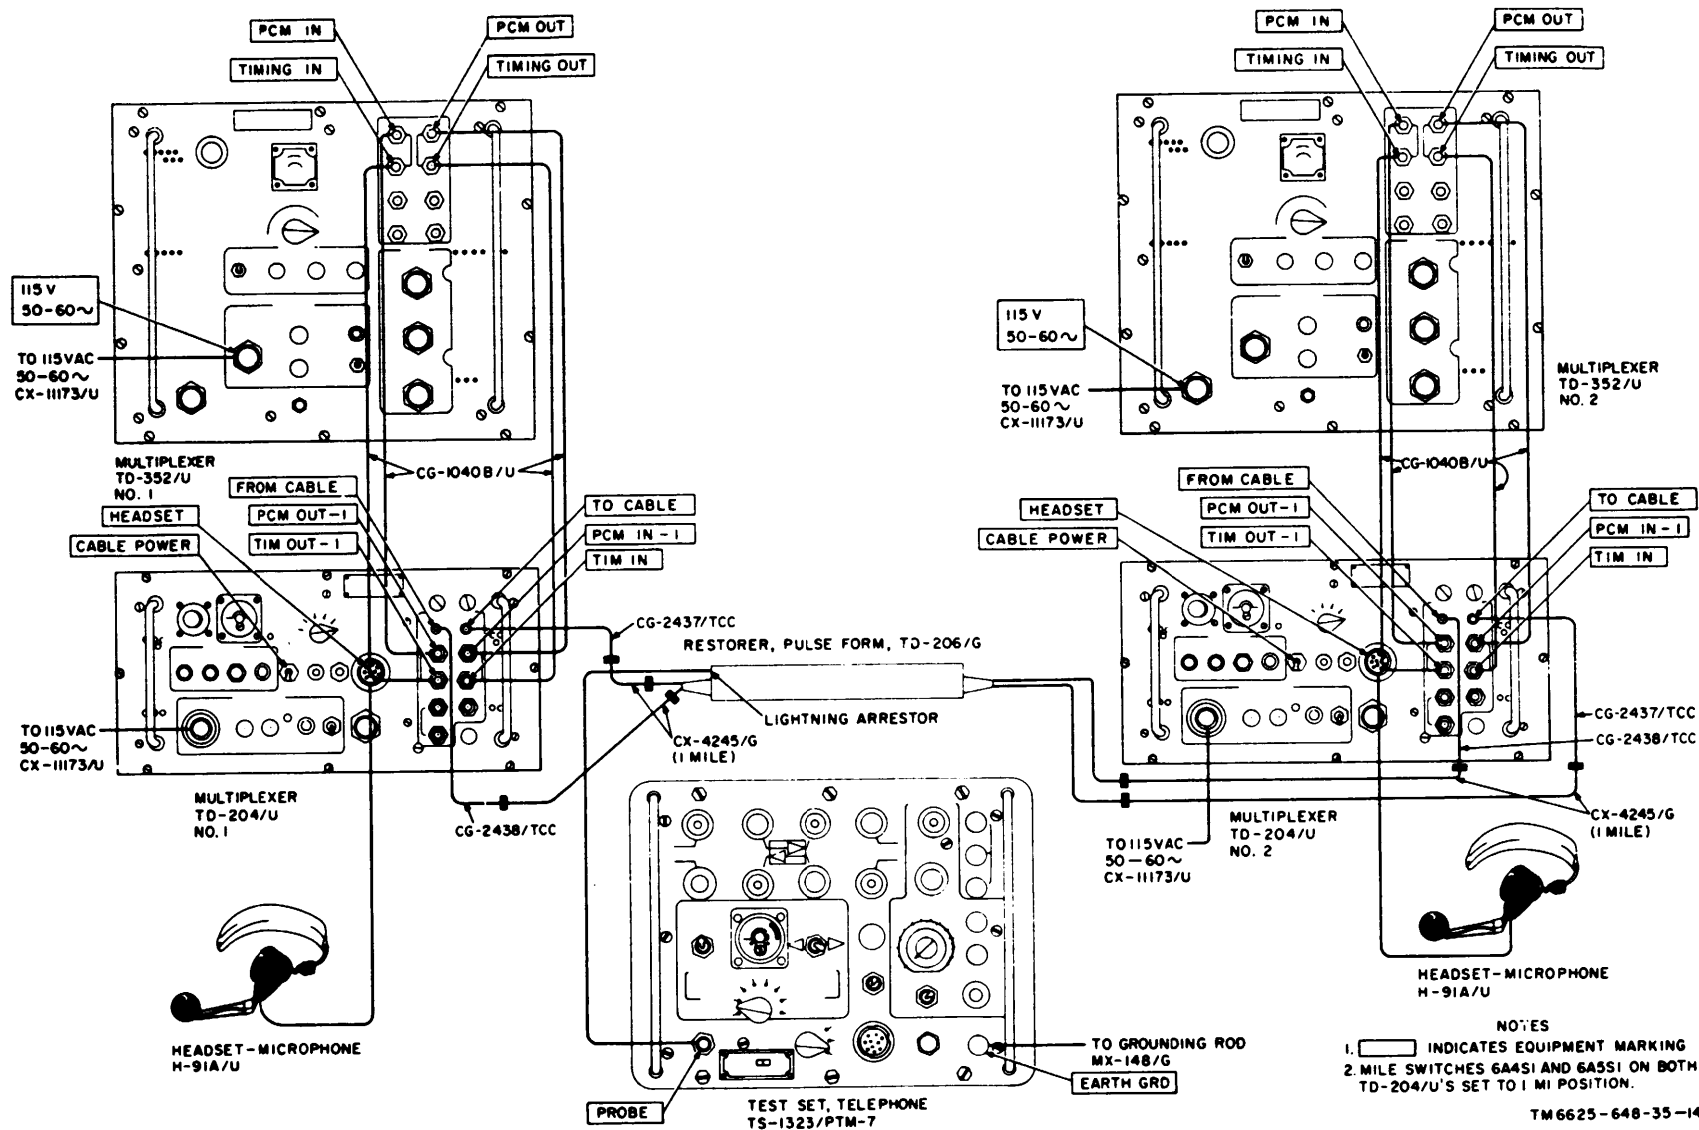

Figure 4-2. Test Set, Telephone AN/PTM-7, performance test setup, pcm probe test.
(fig. 4-2)
- (1) Multiplexer TD-352/U (2 ea).
- (2) Multiplexer TD-204/U (2 ea).
- (3) Headset-Microphone H-91A/U (2 ea).
- (4) Cable Assembly, Special Purpose Electrical CX-4245/G or equivalent (1/4-mile reel (8 ea).
- (5) Cable Assembly, Radio Frequency CG-1040B/U (5 ft) (8 ea).
- (6) Cable Assembly, Radio Frequency CG-2437/TCC (10 ft) (2 ea).
- (7) Cable Assembly, Radio Frequency CG-2438/TCC (10 ft) (2 ea).
- (8) Restorer, Pulse Form, TD-206/G (1 ea).
b. Test Connections and Conditions. Connect the equipment as shown in figure 4-2.